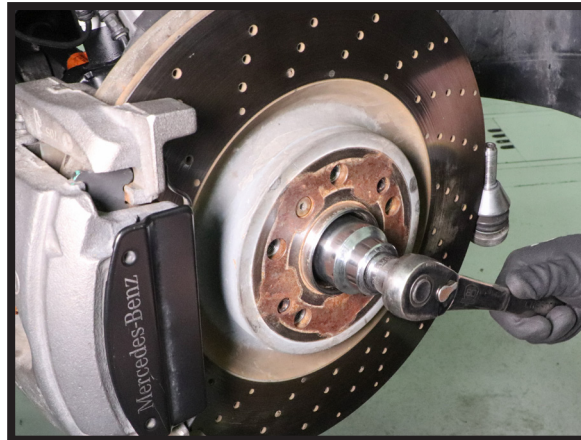

FIGURE 37
10. REINSTALL AXLE NUT AND TIGHTEN TO MANUFACTURER'S SPECIFICATIONS. (FIGURE 37)